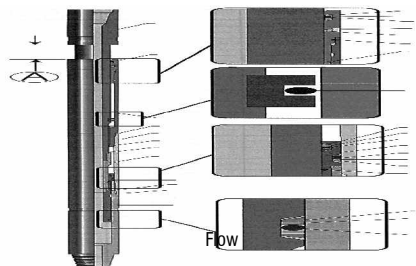

Figure 10.1
2. Remove the plug and install the Fluid Bleed Valve Assembly (Part No. 155400). Ensure that all the valve component fittings are tight. Close the valve. Refer to Figure 10.1.